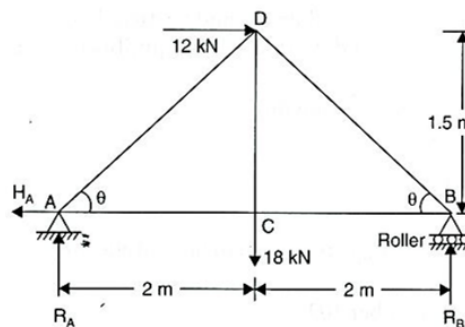

Figure 2
- (b) Determine the forces in the truss shown in Figure 2 which carries a horizontal load of 12 kN and a vertical load of 18 kN. [7M]